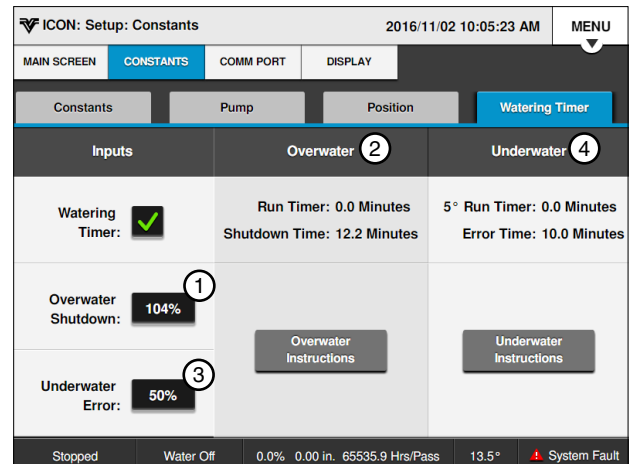

Figure 33-1 1. Overwater Shutdown
2. Select the Overwater Shutdown field. Refer to Figure 33-1.
To view the Overwater Timer Instructions, push **Menu, Setup, Constants, Watering Timer** and push the **Overwater Instructions** button. Refer to Figure 33-1.
1. To set the Underwater Error, push **Menu, Setup, Constants, and Watering Timer** to display the Watering Timer screen. Refer to Figure 33-1.
To view the Underwater Timer Instructions, push **Menu, Setup, Constants, Watering Timer** and push the **Underwater Timer Instructions** button. Refer to Figure 33-1.